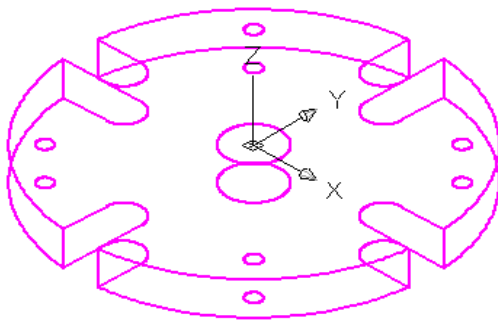

Figure Step 11
Step 11 Insert the key AutoCAD 3D Workalong 03-2. It will overlay the model with a magenta model as shown in Figure Step 11. If you require help doing this, redo Module 2.